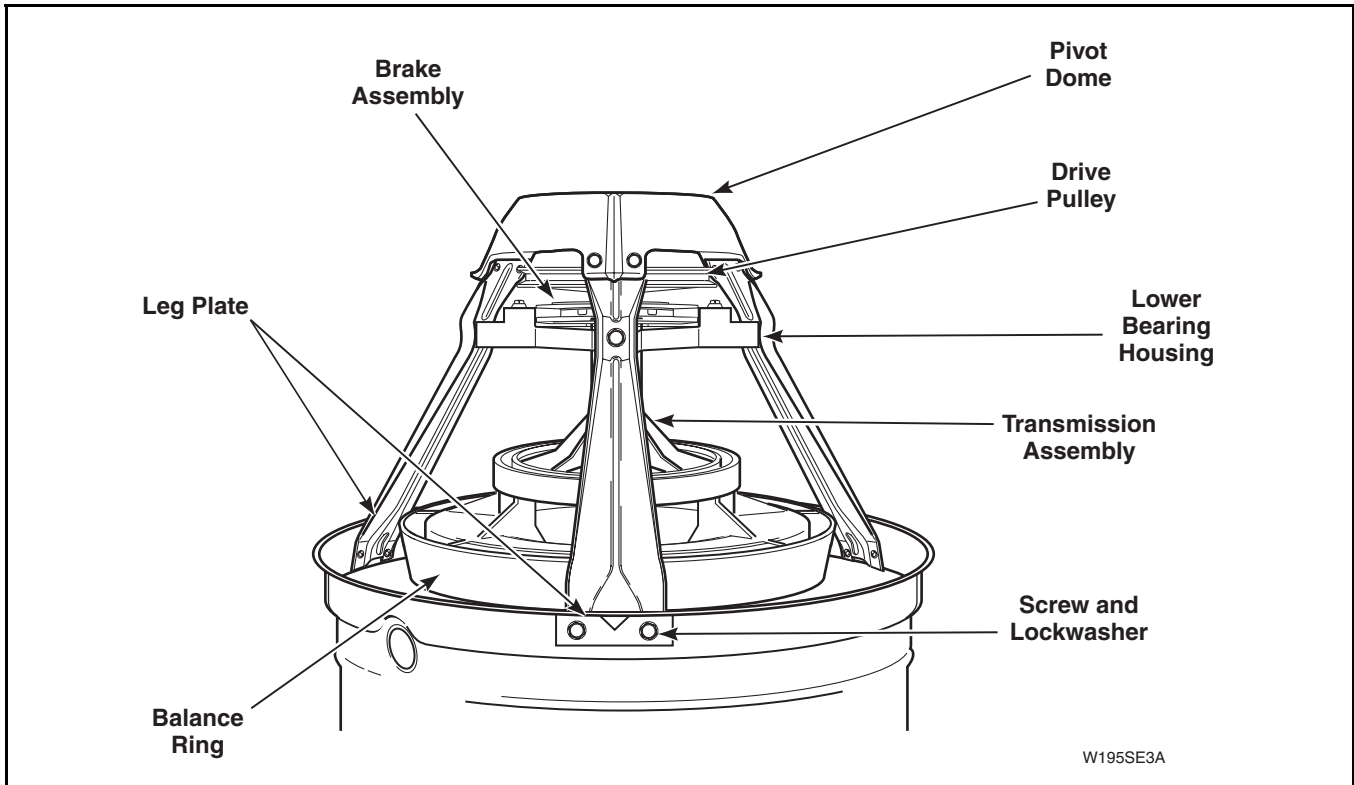

Figure 40
- u. Remove screws and lockwashers holding each support leg to outer tub. Refer to *Figure 40*. Then lift transmission, balance ring and pivot dome off tub.
- l. Remove screws holding three support legs to pivot dome and remove dome. Refer to *Figure 40*.